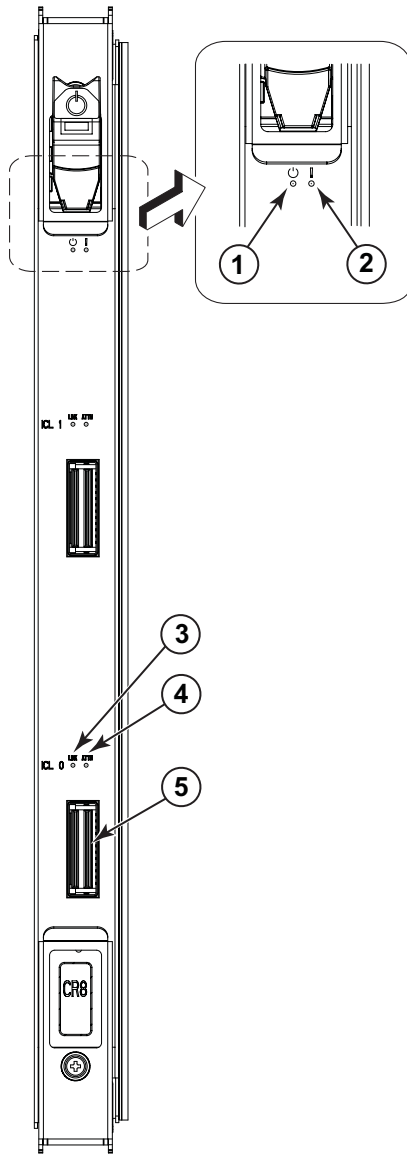

Figure 12. Core switch blade (CR8) LEDs
1. Check the LED indicators on the core switch blade (Figure 12 on page 36). The LED patterns may temporarily change during POST and other diagnostic tests; for information about how to interpret the LED patterns, see Table 10 on page 36.
Figure 12 on page 36 identifies the core switch blade.